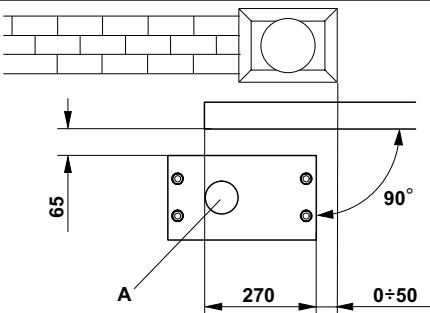
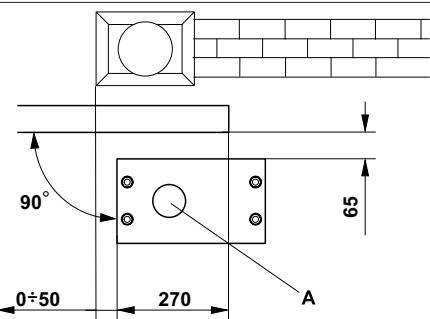

Fig. 5
Fig. 6
- The foundation plate must be located as shown in figure 5 (right closing) or figure 6 (left closing) to ensure the rack and pinion mesh correctly.
Caution: While positioning the plate, leave the Ø 80 hole foreseen for the routing of the sheaths on the left, as shown in fig. 5 and 6, ref.A.